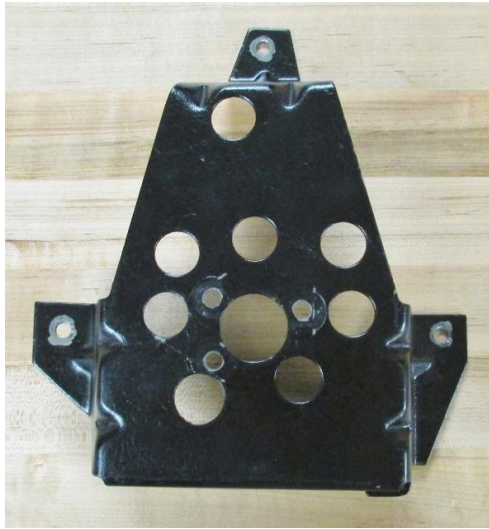

Figure 5 - Drill Motor Mount Holes
- Drill three small holes that were transferred from the motor adapter template finishing with a 17/64" drill bit through the mounting bracket (Figure 5 on the next page).